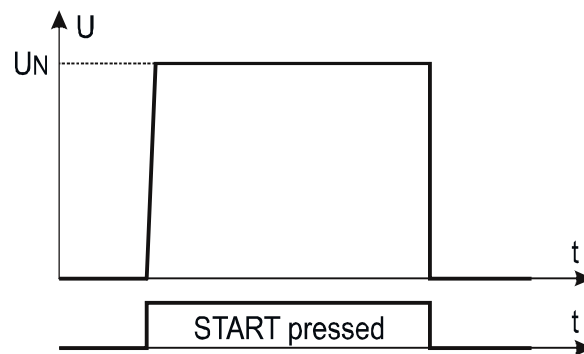

Fig. 36 : DIELECTRIC test in Manual or Burn mode
- **Manual mode** → The test voltage is maintained constantly until the **START/STOP** key is pressed (see Fig. 36). The measured discharge current is compared with the set limit value and the result is stored in memory
- **Burn mode** → The test voltage is maintained constantly until the **START/STOP** key is pressed (see Fig. 36) but the result is NOT compared with any limit and is NOT stored in the memory (functional test)